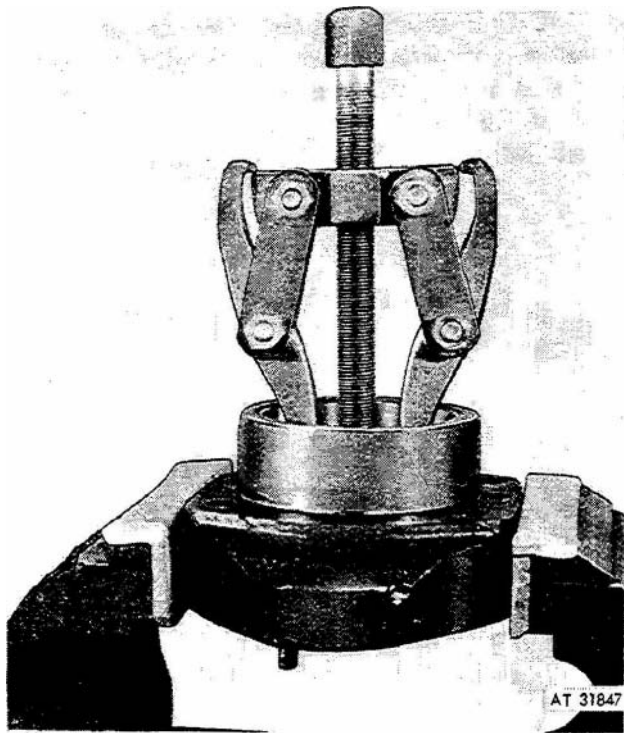

Figure 3-51. Removing bearing cup from speedometer housing.
(17) Using a suitable puller, remove bearing cup of bearing (47, fig 3-47) from speedometer housing (50) as shown in figure 3-51.